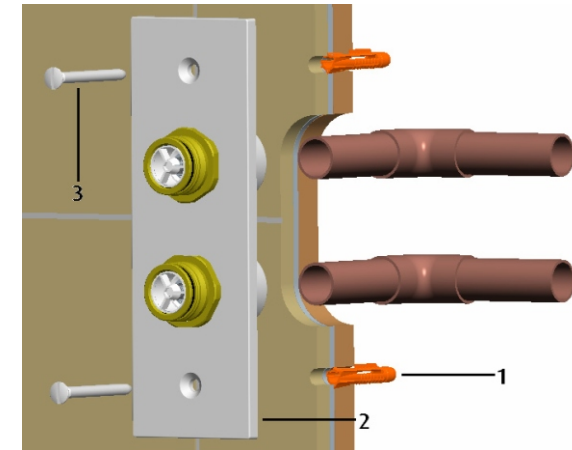
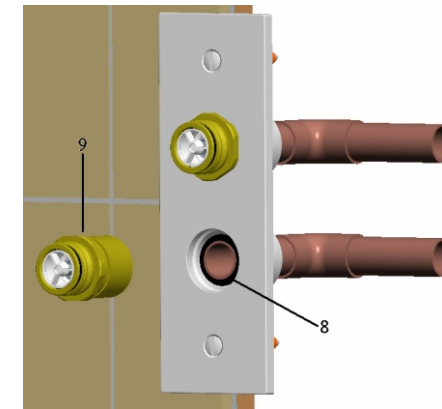

Fig. 4
Fig. 5
Carefully slide back plate (2) over pipe work. Between 15 – 23mm of the pipe needs to locate within the back plate to ensure a seal (measured from the back). If in doubt remove brass inserts (9) by unscrewing anti-clockwise, if both o-rings (6&8) are located around the pipe then all is fine (see Fig.4, Page 8). Carefully screw brass insert back into back plate (see Fig.5, Page 8).
4.2.1.6 Secure back plate to wall using screws (3).
4.2.2.5 Remove plastering shroud. Secure backplate to wall using screws (3) (see Fig 4 overleaf).
4.2.2.7 Push shower body (12) onto back plate (outlet pointing up) and secure using grub screws (13) and hexagon key as shown in Fig. 4.